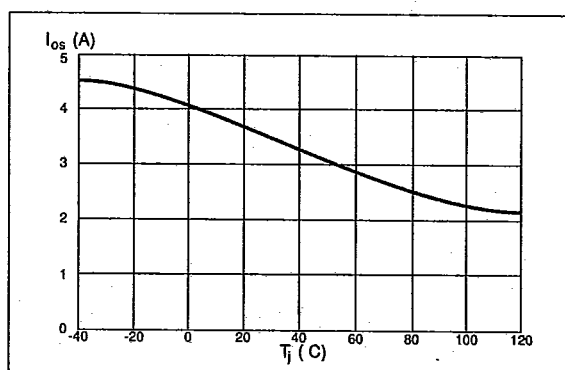

Figure 9. Typical output current shut-down vs. chip temperature.  $5V \leq V_{cc} \leq 40V$ .
The overload protection will typically be activated at  $I_{out} = 3.2A$  at  $T_j = +25^{\circ}C$ , see figure 9.
2. Figure 9 shows the output current shutdown vs. junction temperature.